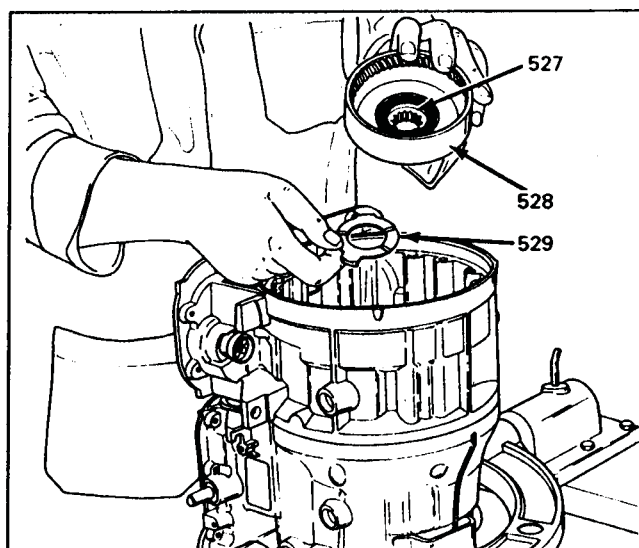

Figure 41
8. Remove the overdrive internal ring gear and thrust washer. A thrust bearing will be retained inside the ring gear (See Figure 41).